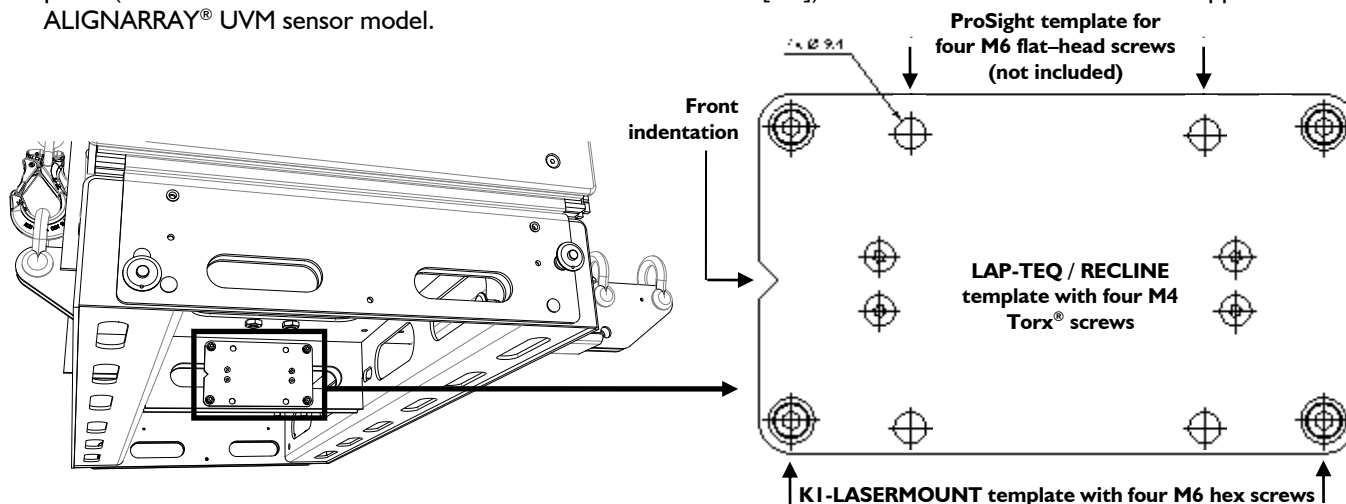

Figure 63: Inclinator mounting plate inside KI-BUMP
A support plate has been integrated inside the KI-BUMP main frame for remote inclinometer sensor mounting (see Figure 63). Four sensor models are supported: TEQSAS® LAP-TEQ PLUS (part of the L-ACOUSTICS® TECH TOOLCASE, refer to the **TECH TOOLCASE Product spec sheet** [3.4]), TEQSAS® LAP-TEQ (legacy model), KSG® RECLINE Compact and SSE® ProSight.
1. Remove the four M4 Torx® screws (T20) from the LAP-TEQ / RECLINE template (Figure 63).